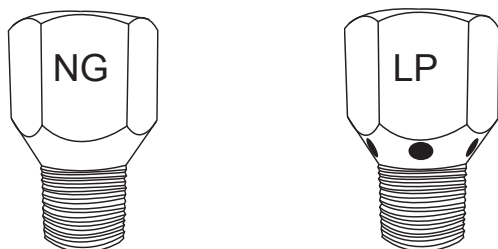

Fig. 5 Natural (NG) orifice on left; LP (vent holes) on right.
4. The primary gas shut-off (not supplied) will require a ½" male flared fitting to enable connection of the stainless steel flex gas line (not supplied) with the fire feature (see Fig. 5 page 9).
5. Do not place an LP tank inside any fire pit enclosure. Locate all Liquid Propane (LP) tanks outside the enclosure.
Main Burner Orifice - All fire pits **MUST** have a main burner orifice installed on the inlet side of the burner. An orifice limits the amount of gas flow to the burner to ensure the flame is a safe and reasonable height to not pose a risk to people or property. The drawings below show the difference between a Natural gas and Propane (LP) orifice. Because LP gas does not burn as clean as Natural and requires ventilation holes at the base of the orifice to provide a cleaner flame. See Fig. 5.
The GOE-30VDC power supply is to be installed inside the enclosure due to the wire length limitations. The power cord is 3-feet long the 30VDC leads to the valve are 3-feet long. See Fig. 5.